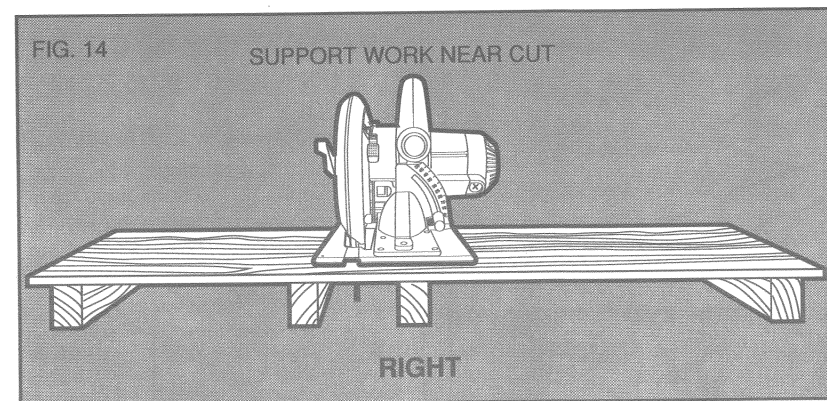
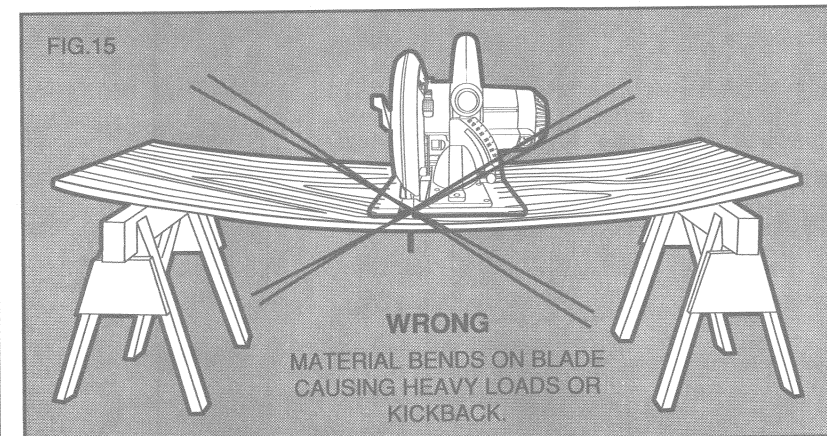

FIG. 14
FIG. 15
5. SUPPORT LARGE PANELS. Large panels must be supported as shown in FIGURE 14 to minimize the risk of overload and kickback from blade pinching. When cutting operation requires the resting of the saw on the workpiece, the saw should be rested on the larger portion and the smaller piece cut off.
7. GUARD AGAINST KICKBACK. Kickback occurs when the saw begins to stall rapidly and is driven back towards the operator. Release switch immediately if blade binds or saw stalls. Keep blades sharp. Support large panels as shown in FIGURE 14. Use fence or straight edge guide when ripping. Don't force tool. Stay alert, exercise control. Don't remove saw from work during a cut while the blade is moving. A more detailed explanation of kickback follows the "Operation" section of this manual.
- B. Cutting through material supported at the outer ends only (see Figure 15). As the material weakens it sags, closing down the kerf and pinching the blade.
To avoid kickback, DO support board or panel NEAR the cut and on both sides of the cut, (Figure 14). DON'T support board or panel away from the cut, (Figure 15). When ripping long narrow strips, support cut-off waste material.